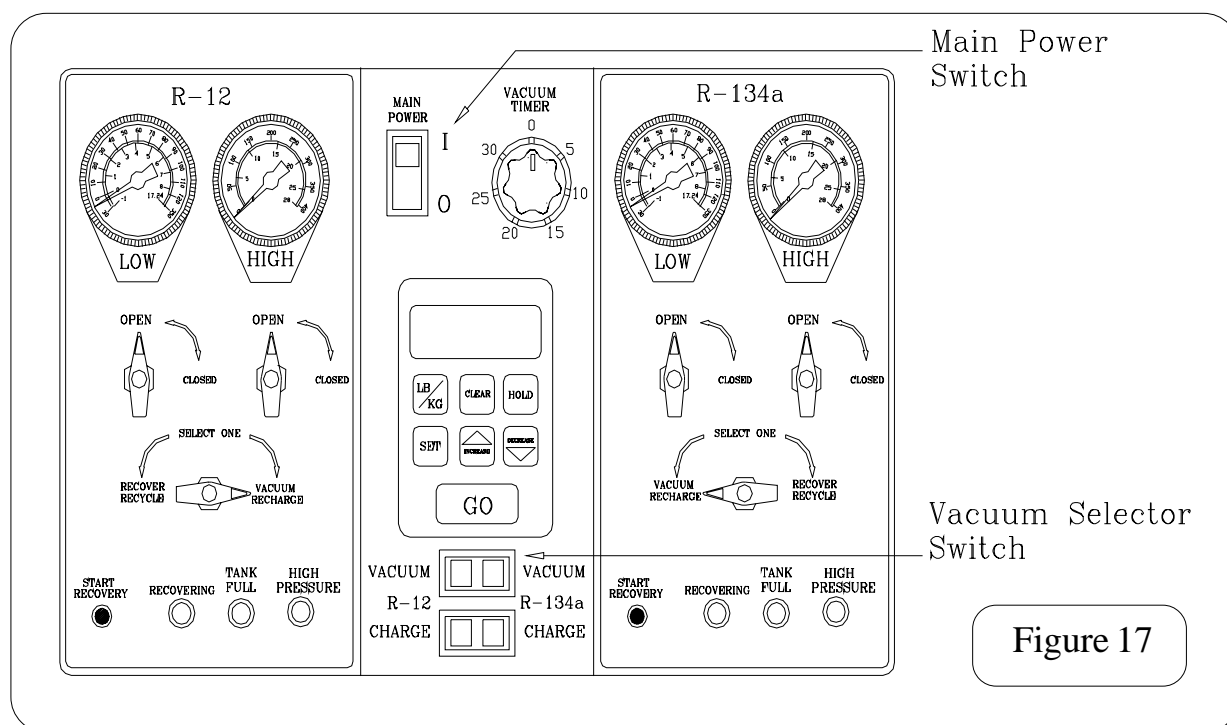

Figure 17
6. On the control panel, position the vacuum selector switch to the refrigerant type desired R-12 or R-134a. (Refer to Figure 17).